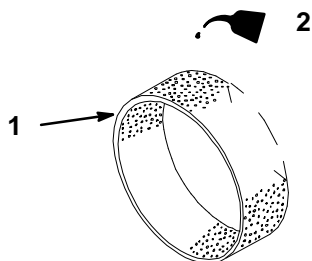

Figure 22
- C. Put one or two ounces of oil on the element (Fig. 22). Squeeze the element to distribute the oil.